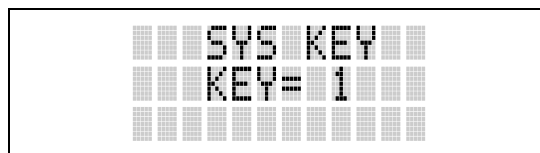
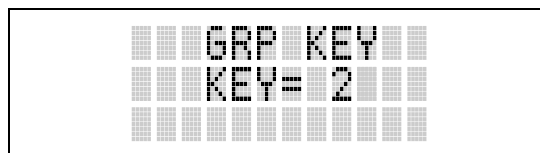

Figure 9-8: System Encryption Key Display
Figure 9-9: Group/Channel Encryption Key Display
3. Then use the **▲** or **▼** button to toggle between displaying the system key (Figure 9-8) or the group/channel key (Figure 9-9).